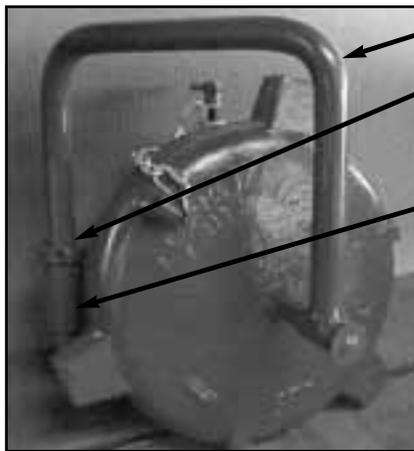

FIGURE No. 7
(Refer To Figure No. 7, 8, 11 & 12)
2. On closures not equipped with a CAT tool, lift the cap until the hinge arm clears the hinge socket. (Figure No. 7 & 8)
1. Horizontal hinge 8" and smaller: (Refer to Figure No. 7)